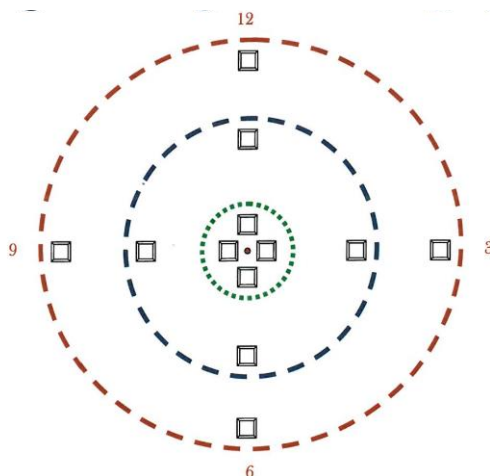

Figure 60.40.50 - 1: Damage Investigation Photography
- 4.1.3.4 do this for each increment on the clock (see Figure 60.40.50 - 1)